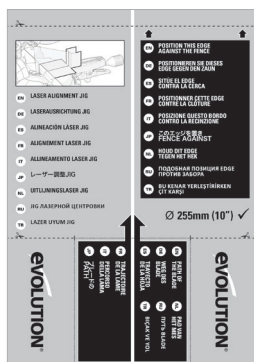

Fig. 8c
- Place the cardboard laser jig (supplied) onto the rotary table (**Fig. 8c**).